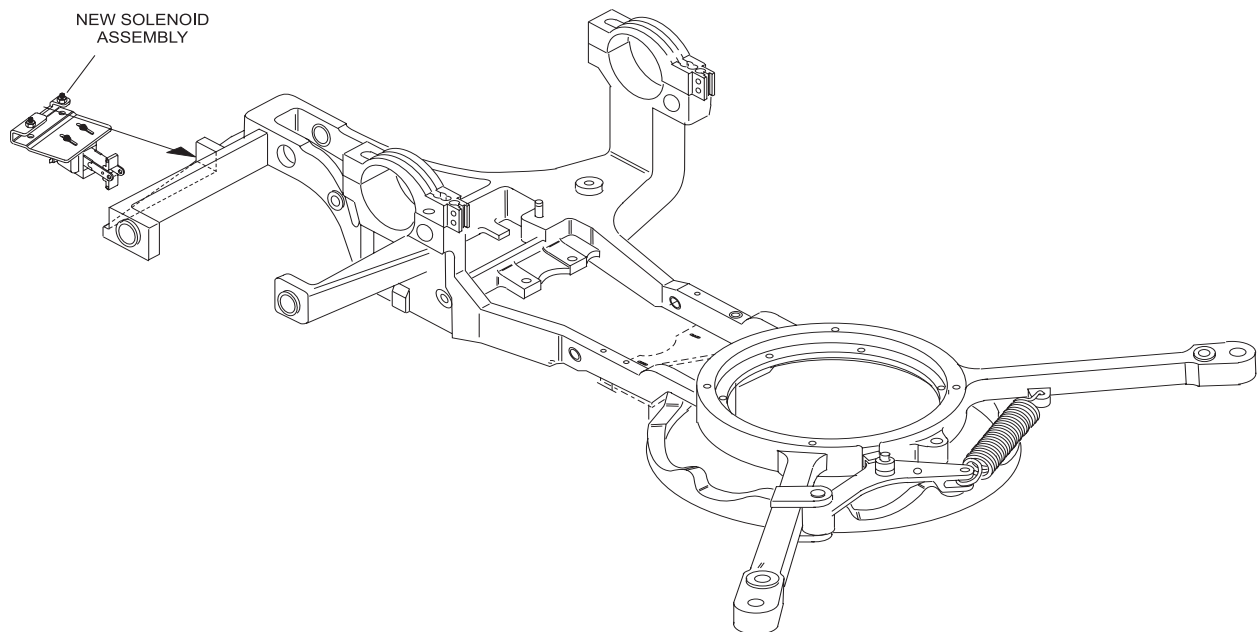

Figure 1
2. Location of solenoid mounting plate assembly 12-150340-000: (Refer to *Figures 1 & 2*). Remove the 12-150187-000 turret pan from the turret frame.
3. Remove the rear x-washer pin from the turret-indexing link (connected to the turret indexing bell crank). Refer to *Figure 1*.